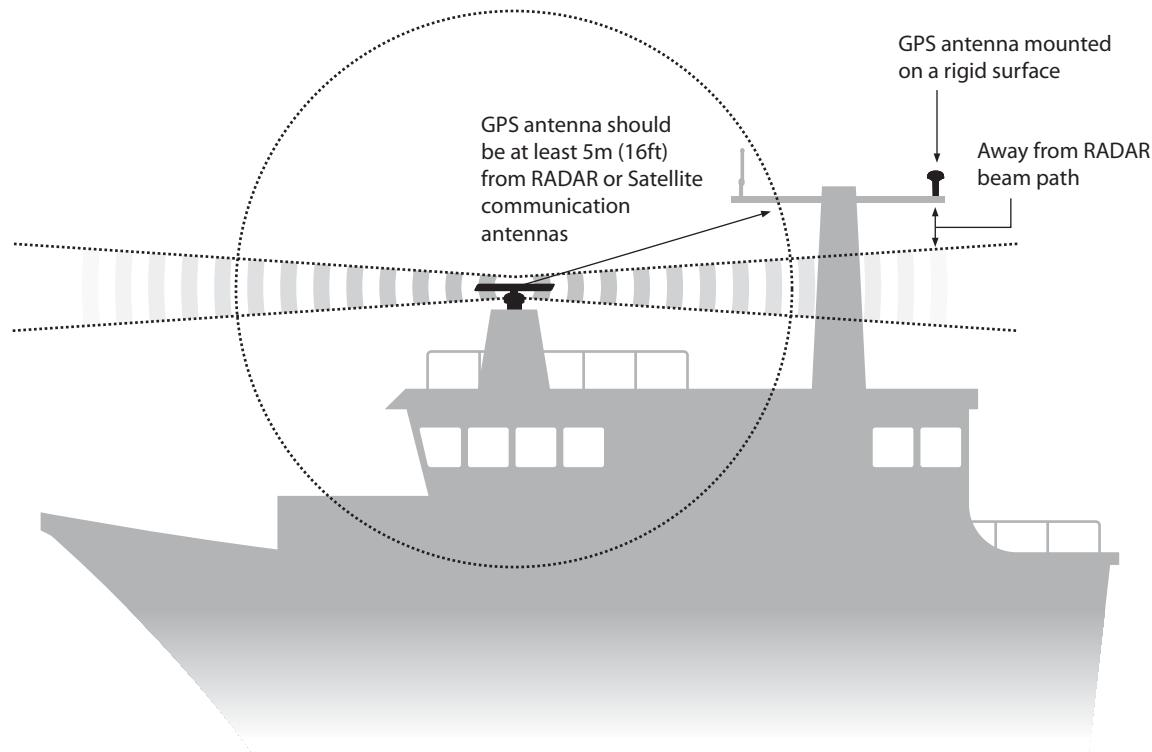

Figure 42 GPS antenna location
- The GPS antenna should be mounted as high as possible, however it is not recommended the antenna is mounted on a top of a high mast where the motion of the vessel will cause the antenna to swing and potentially reduce the accuracy of the GPS position. See Figure 42 for guidance.